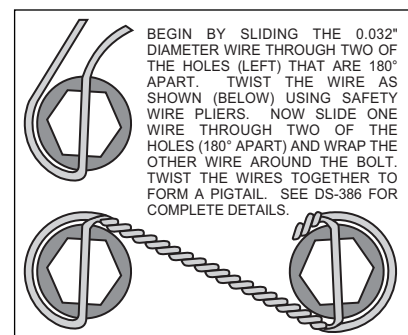

Figure 3. Safety Wire Diagram
- Identify the left and right caliper mounting brackets (1). Both brackets will be offset to the rear of the vehicle with the threaded inserts and the beveled bolt holes facing the outside of the vehicle. Apply red *Loctite*® 271 to bolt threads (2 and 5) before assembly of the caliper bracket (1) to backing plate face of spindle. Insert the two upper mounting bolts (2) and the lower mounting bolt (5) through the caliper mounting bracket (1). Place one upper mounting bracket spacer (3) over each of the upper mounting bolts (2). Slide a lower mounting bracket spacer (6) over the lower mounting bolt (5). Position the caliper mounting bracket (1) onto the spindle, slipping each of the three mounting bolts (2 and 5) through the spindle holes. The lower ball joint may have moved when the original bolts were removed. Re-alignment may be necessary for the lower bolt (5) to slide through. Install two lock nuts (4) on the upper mounting bolts (2) and finger tighten. Install one lock nut (7) on the lower mounting bolt (5) and finger tighten. Torque two bolts (2) to 47 ft-lb. Torque bolt (5) to 65 ft-lb. **NOTE:** Be sure the heads of the caliper bracket (1) insert nuts are facing outward toward the wheel.
- Install five new wheel studs (8) into the hub (9). Torque to 77 ft-lb. **NOTE:** There are two five lug patterns in the hub (5 x 4.00 and 5 x 4.50). Make sure of the correct hole pattern for the correct wheel application before installing studs into hub.
- Pack the large inner bearing cone (10) with high temperature disc brake bearing grease (available from your local auto parts store) and install into the backside of the hub (9). Install the grease seal (11) by pressing into the backside of the hub (9).
- Attach rotor adapter (12) to rotor (13) using six bolts (14). Torque bolts to 180 **in-lb**. Safety wire bolts (14) using standard 0.032 inch diameter stainless steel safety wire as shown in Figure 3. Please refer to Wilwood's data sheet DS-386 (available at www.wilwood.org/ds386.pdf) for complete safety wire installation instructions. **NOTE:** The flat side of the rotor (13) lugs face toward the rotor adapter (12) with the dished side of the rotor adapter (12) facing away from the rotor (13).
- Mount the adapter/rotor assembly (12 and 13) to the hub (9) using five bolts (15). Torque bolts (16) to 22 ft-lb. Safety wire bolts (15).
- Pack the small outer bearing cone (16) with high temperature disc brake bearing grease. Lightly coat the spindle bearing surfaces with bearing grease. Slide the hub/rotor assembly (9 and 13) with outer bearing cone (16) onto the spindle. Secure using existing spindle washer, existing adjusting nut and nut locking device.